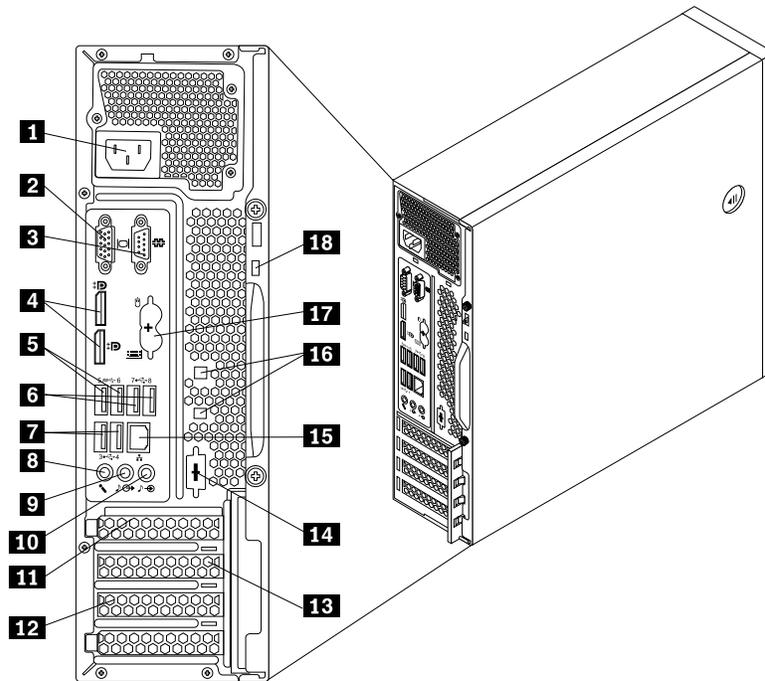

Figure 10. ThinkCentre M83 rear connector locations
- Figure 10 “ThinkCentre M83 rear connector locations” on page 79 shows the locations of the connectors on the rear of the ThinkCentre M83 computer. Some connectors on the rear of your computer are color-coded to help you determine where to connect the cables on your computer.